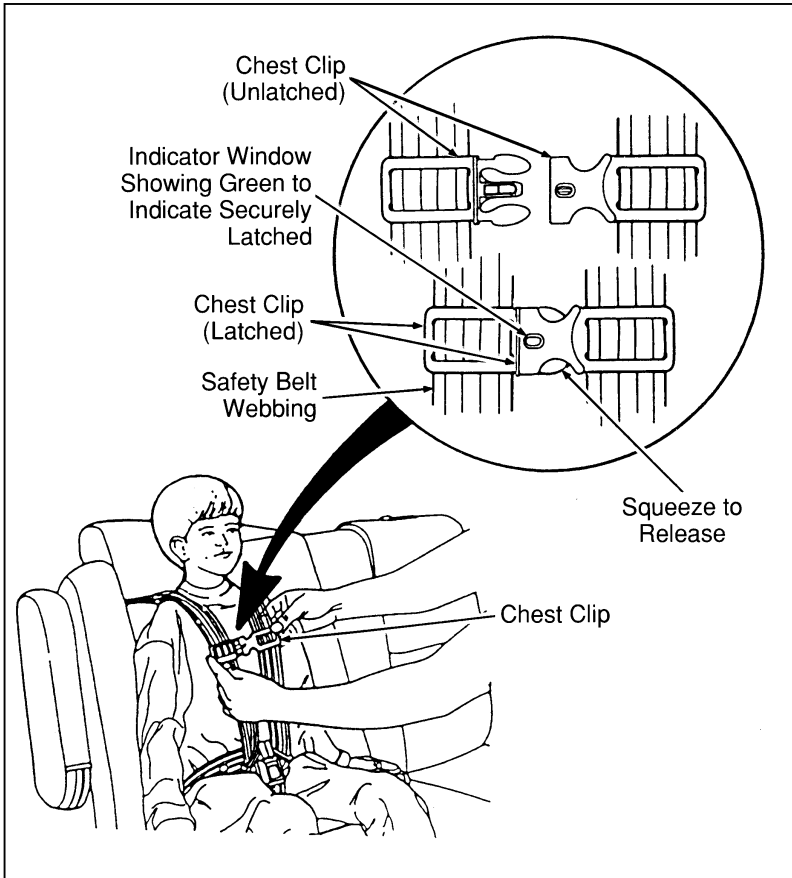

Figure 6: Securing the chest clip
7. Fasten both halves of the chest clip below the child's shoulders and adjust it to comfortably hold the shoulder belts in place on the child's chest. The color green must appear in the indicator window when fastened. (The purpose of this clip is to position the shoulder belts correctly on the child's shoulders.) Refer to Figure 6.
- Open the chest clip. Refer back to Figure 6.